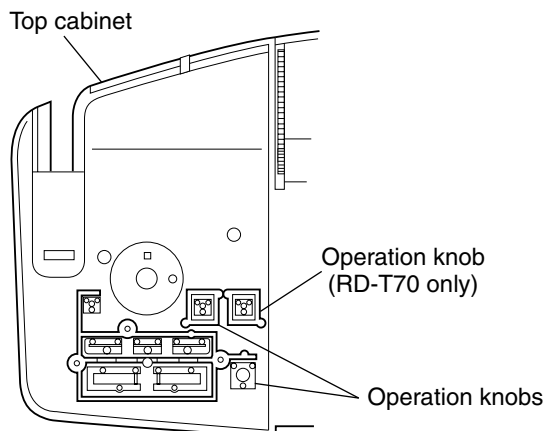

Fig.20
2. Remove the five screws **P** retaining the key 2 board from the back side of the top cabinet assembly.
4. Take out the key 2 board and the jog board together.
**[Note]** · Operation knobs are present below the key 2 board. Be sure to install these in their correct orientations when installing the key 2 board. (See Fig. 20.)